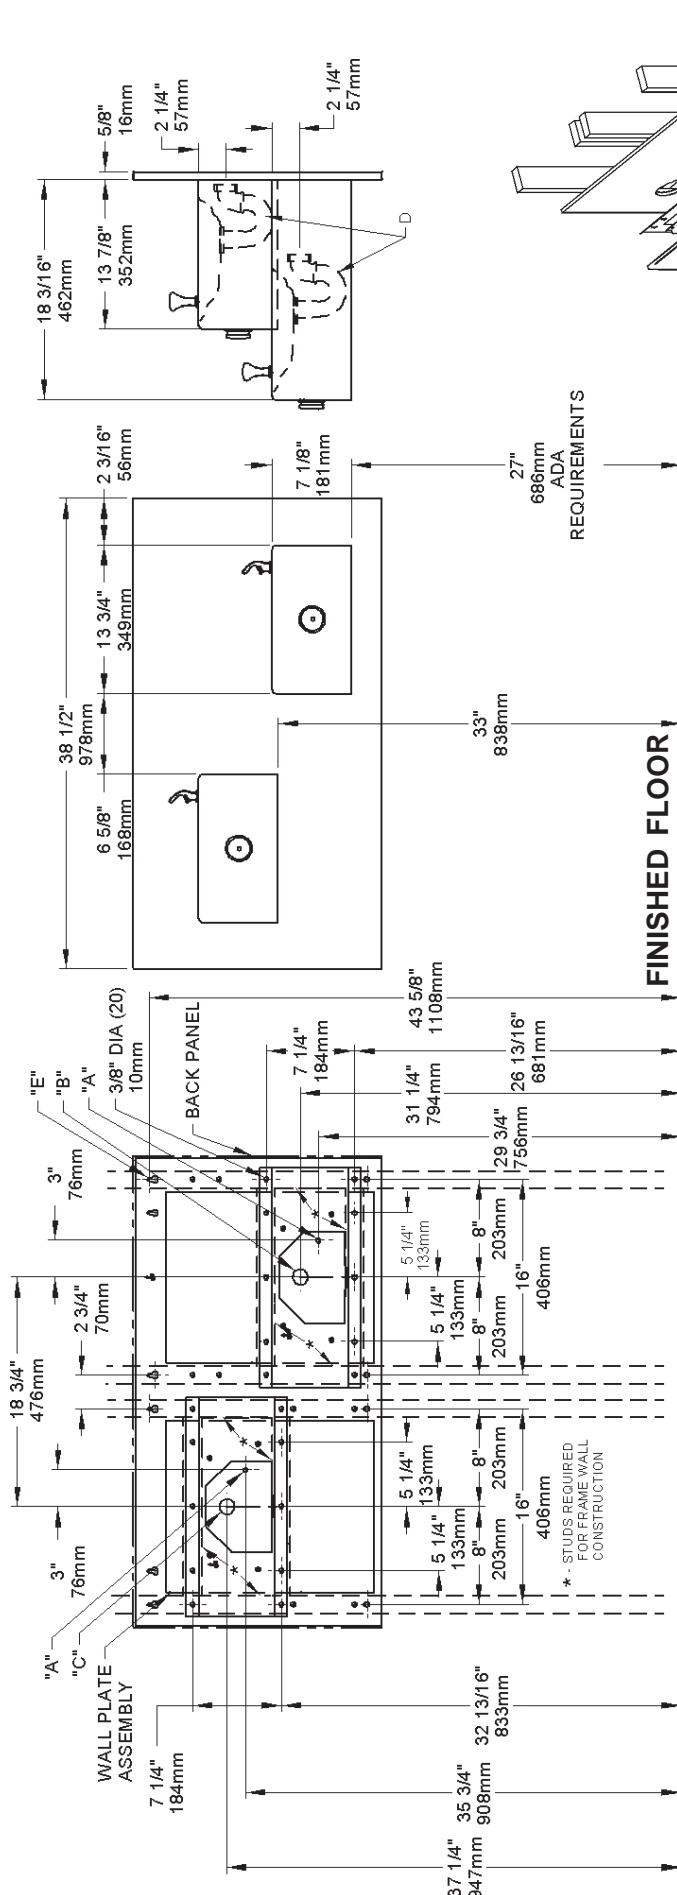

FIG. 1
4. **Install rough-in plumbing** as shown in Fig. 1. Waste line should extend a minimum of 2" (51mm) thru the back panel. Run supply water inlet line thru back panel. Install a service stop (not provided). Turn on supply water and flush thoroughly.
5. **Remove bottom access panel** from fountain basin and save the screws. Install the fountain to the back panel and wall using (4) 5/16" x 1-1/4" long bolts and washers thru holes in back panel. Bolts should be long enough to securely fasten the fountain to the wall. Tighten securely, but do not over tighten. Over tightening will crack the Marblyte Fountain.
6. **Remove elbow from end of p-trap** (item 1) and attach it to drain tube. Re-attach elbow to p-trap and cut waste tube to required length using plumbing hardware and trap as guide.